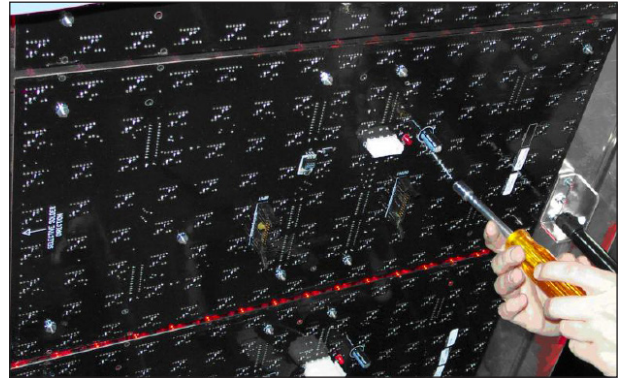

Figure 15: Removing a Module
6. Using a nut driver, remove the 10 nuts holding the module to the panel. Refer to **Figure 15**.